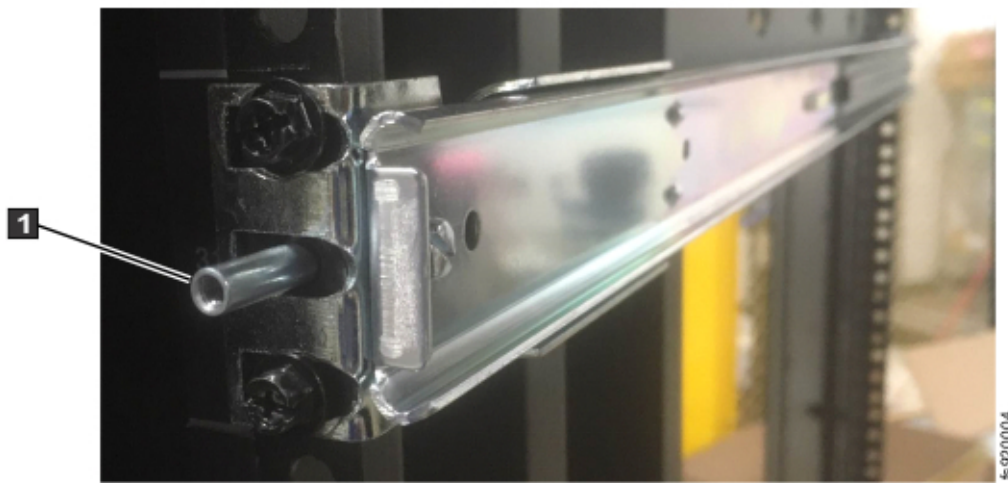

Figure 260. Rack front detail
- a) Attach a mounting bracket to each end of the outer rail members by using two of the supplied bolts, nuts, split washers, and washer sets per bracket, as shown in Figure 260 on page 319. Leave the nuts slightly loose to assist installing to the correct length.
- c) Attach the rail outer members into the front of the rack by inserting the nut plate (P/N 00E6806) behind the front rack upright and securing it with two screws (P/N 46C6380) per side, as shown in Figure 260 on page 319.